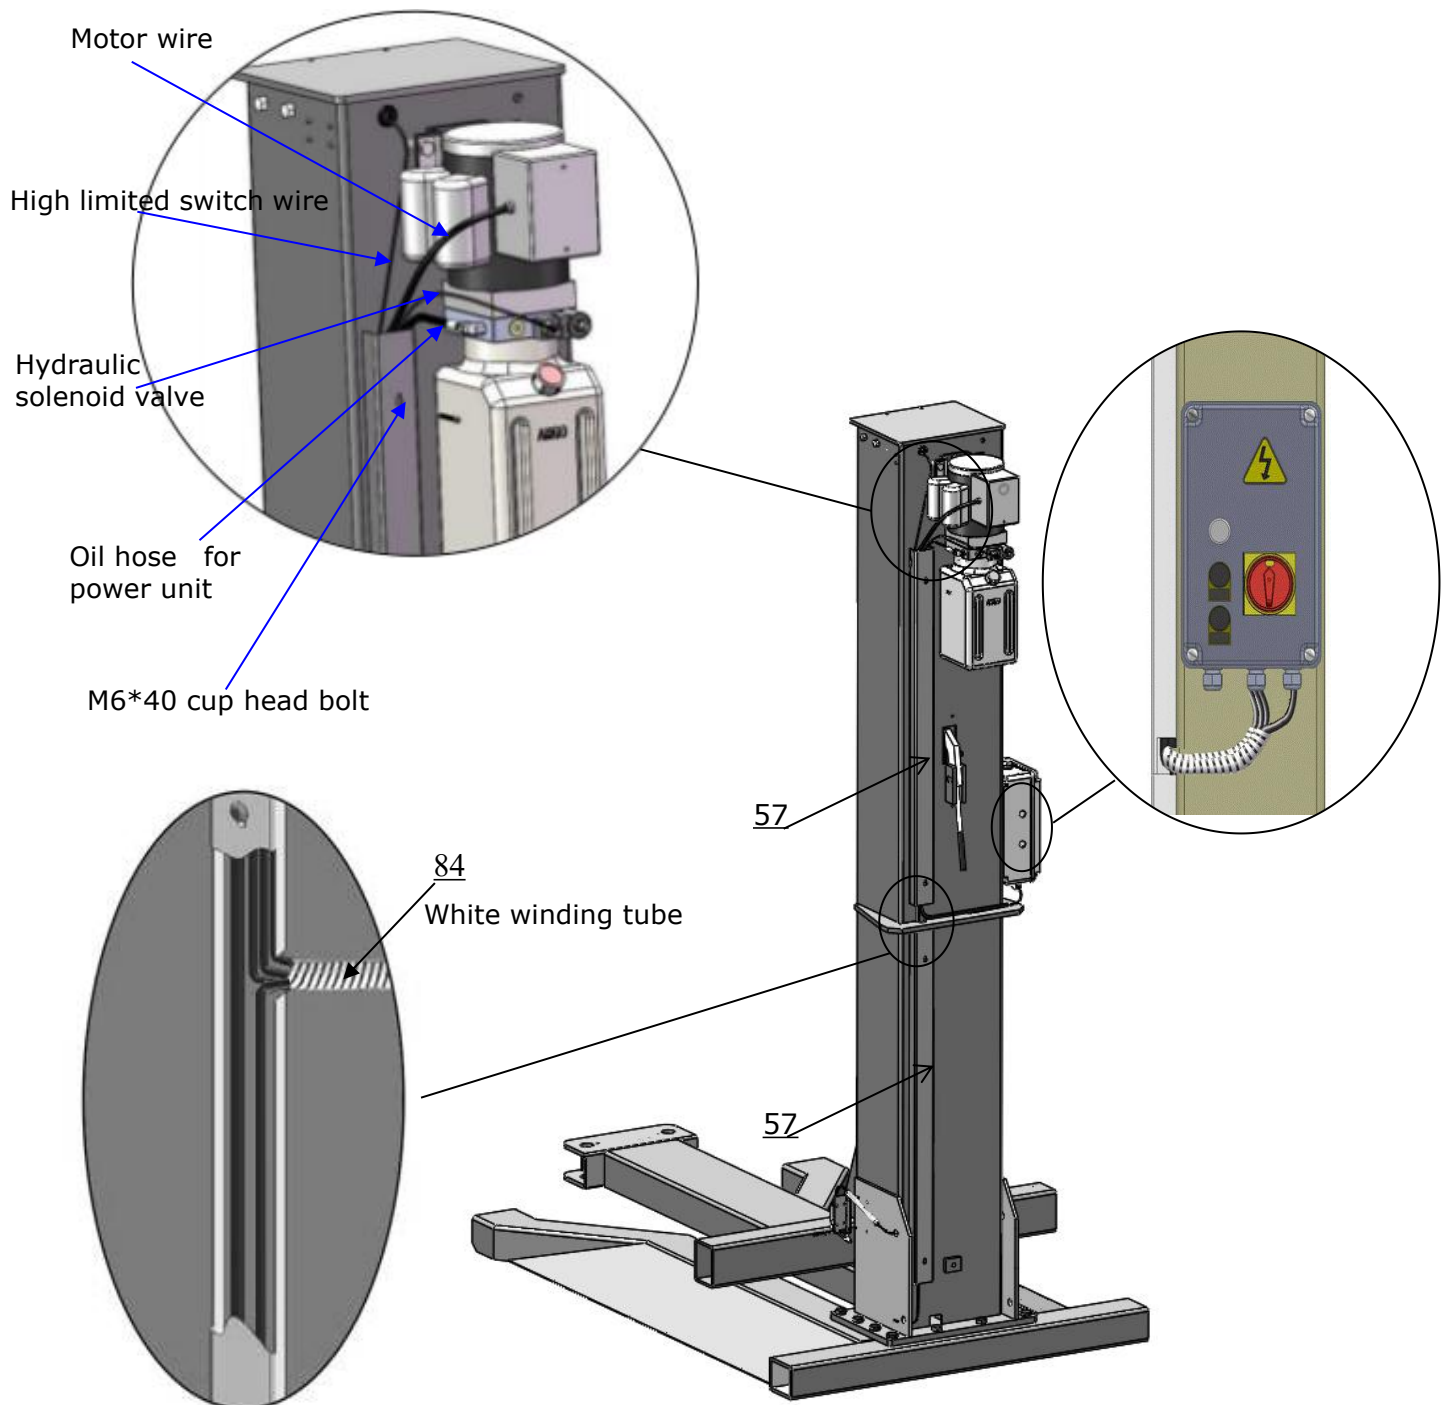

Fig.26
5.2 Single phase circuit schematic diagram, see fig 26
H. Install protection slots (see Fig.26)